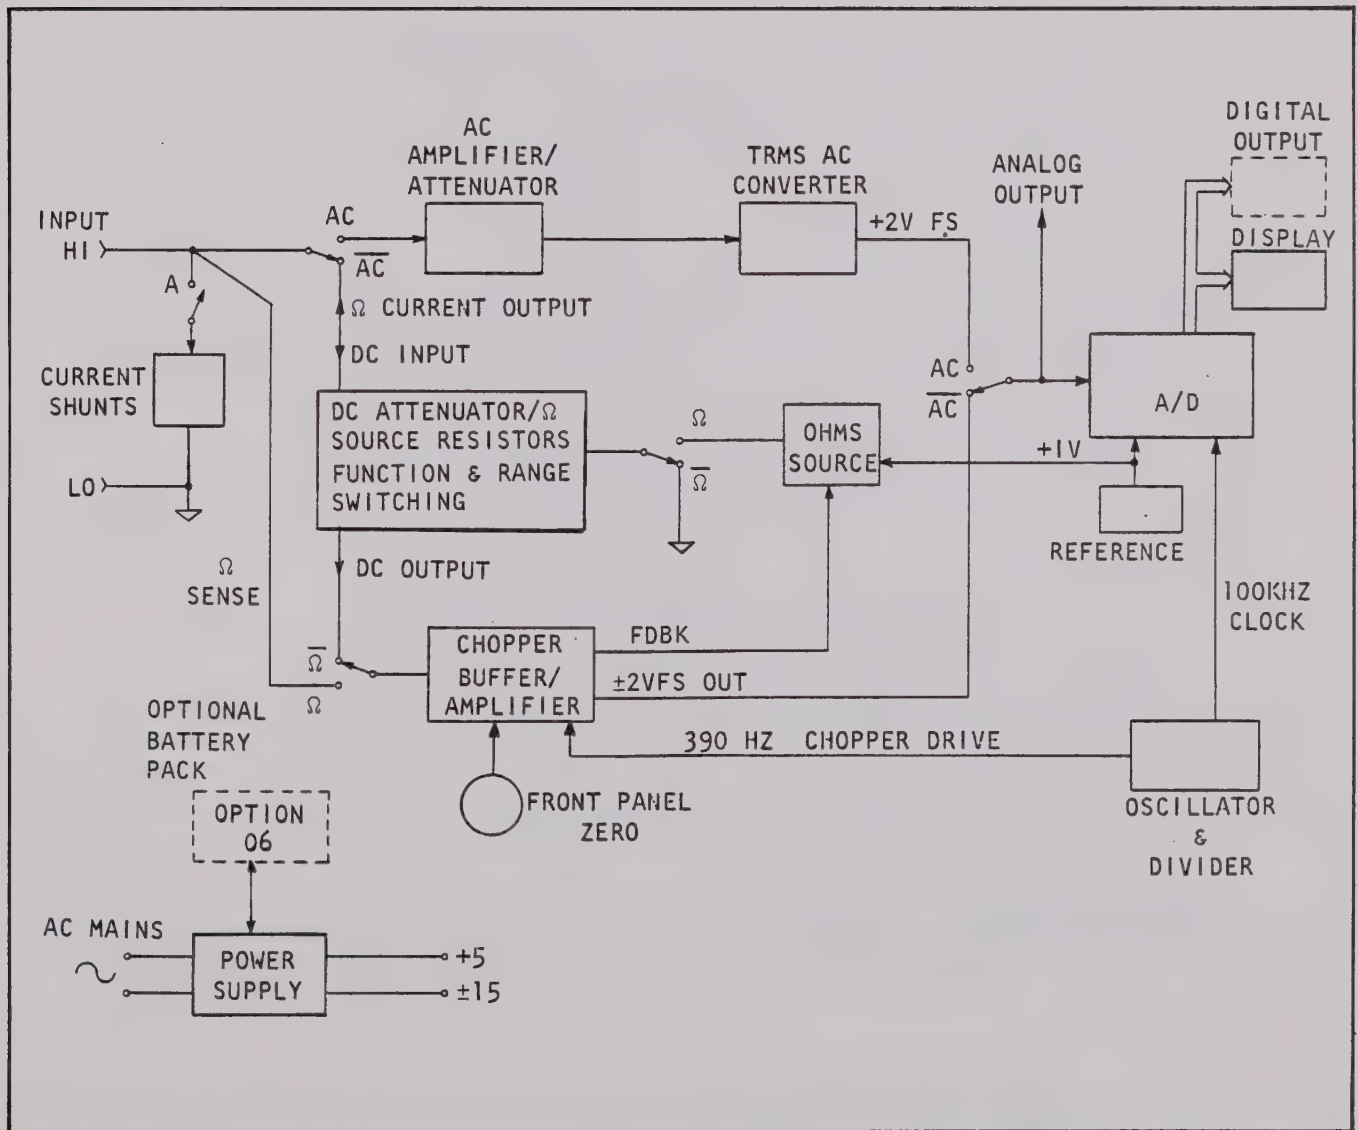

FIGURE 5-1. Simplified Signal Flow Block Diagram.
5-1. GENERAL. This section contains circuit descriptions for the Model 4003 DMM and the Option 06 Battery Pack. An overall block diagram of signal flow is provided in Figure 5-1. The schematic diagrams are contained in Section 7 of this manual.
a. Signal Conditioning. Signal conditioning includes dc attenuation (on the 20, 200 and 1200 volt ranges), modulation and demodulation of the DC signal by the chopper buffer/amplifier with X100 and X10 gain (on the 20 and 200 mV ranges, respectively), ac attenuation (on the 20, 200 and 1000 volt ranges), ac amplification (on the 200 mV and 20 volt ranges), ac-to-dc conversion, ohms source and conversion, and current shunts as shown in Figure 5-1.